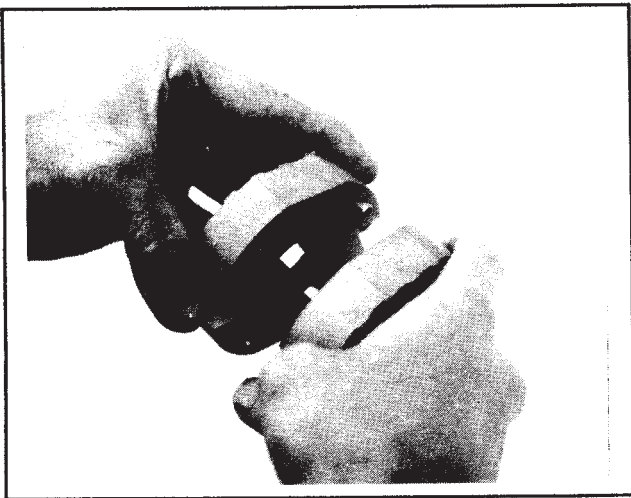

Figure 9
3. Hold the driver-and-spacer assemblies facing each other so that the stop pins rest on the discs (Figure 9).